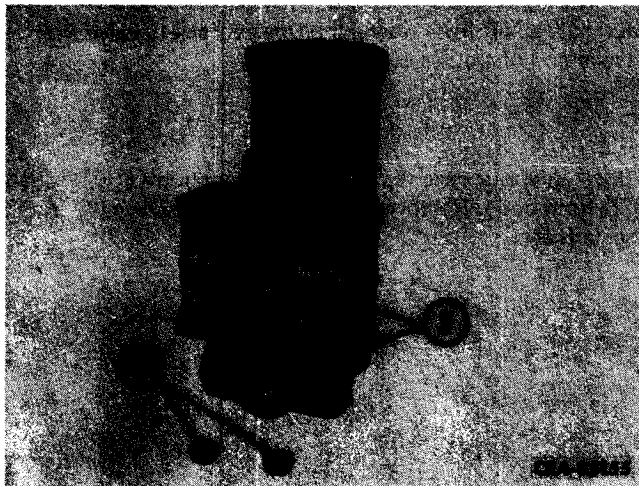

Figure 13-9
Remove filter screens (1, Fig. 13-9) from ports (2) in governor body.
Install new filter screens (1, Fig. 13-9) in unloader and reservoir ports (2) in governor body. Screens can be inserted with blunt end of a pencil.